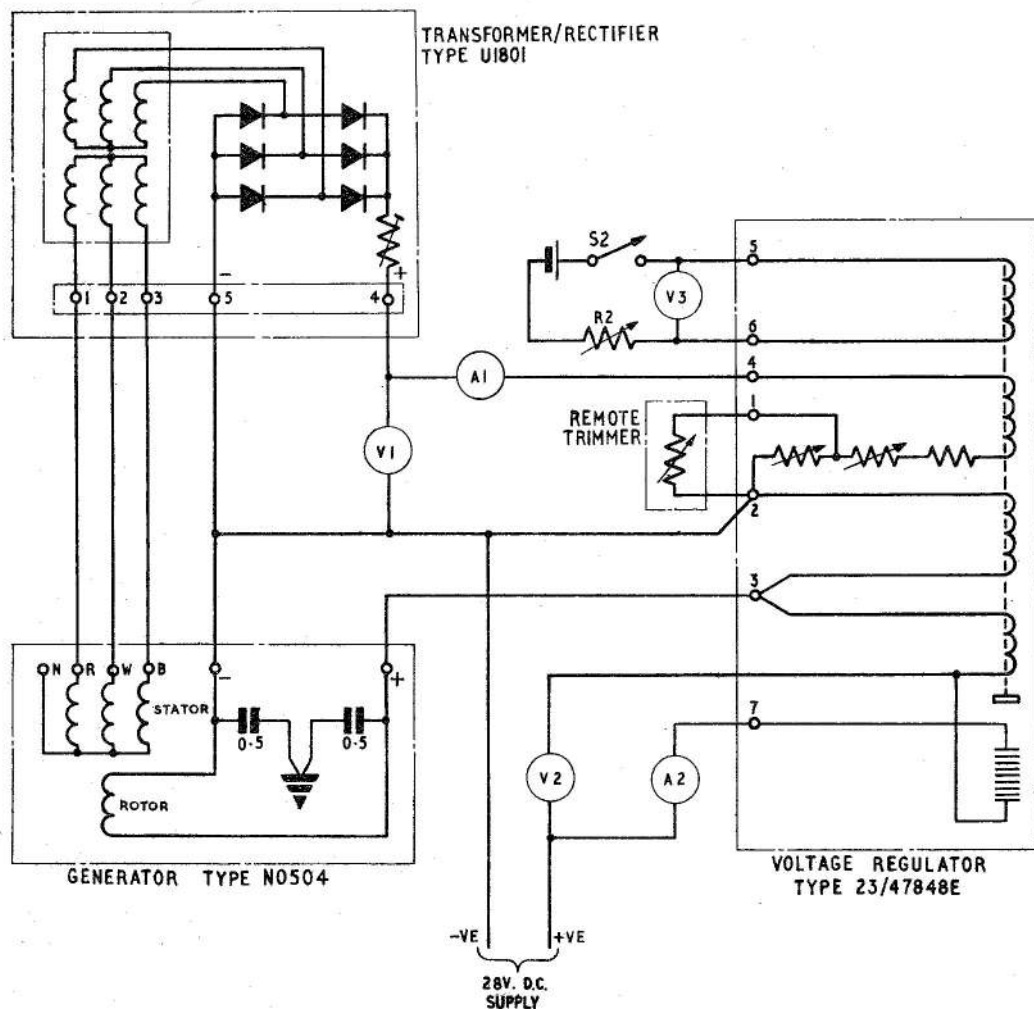
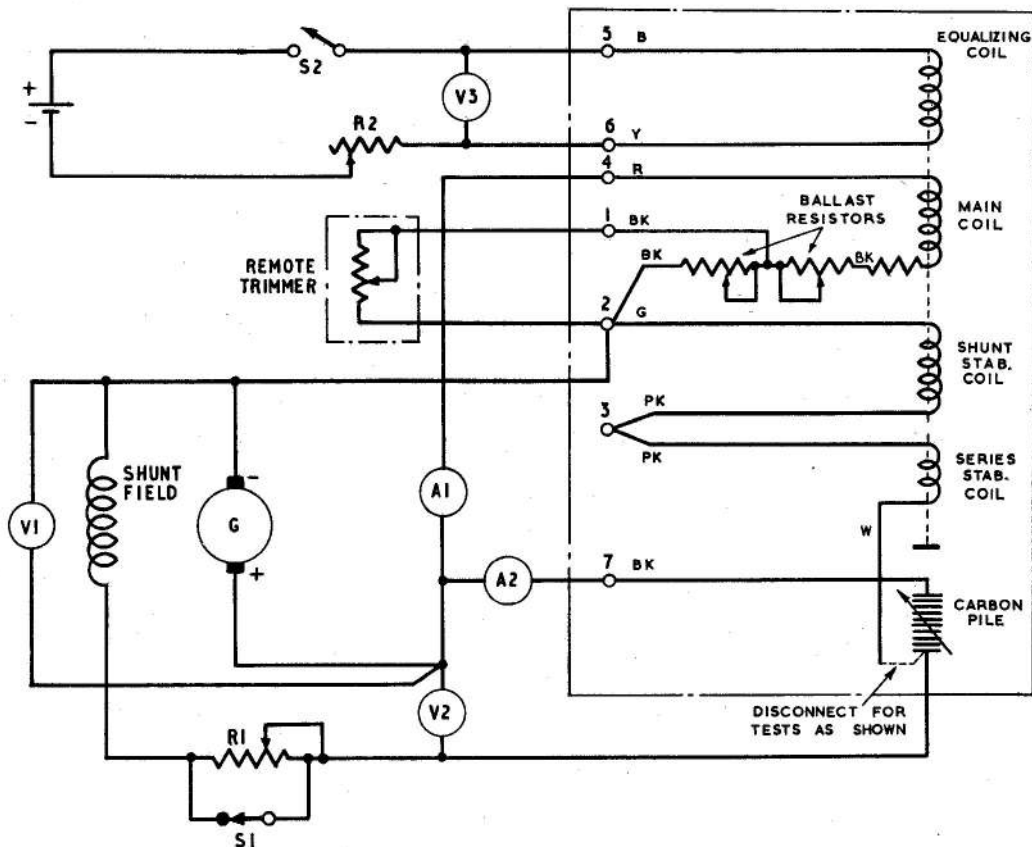

Fig. 1. Test circuit diagram, using a.c. generator Rotax Type N0504
Fig. 2. Test circuit diagram, using d.c. generator Type P3
4. Connect the regulator into the appropriate test circuit as shown in fig. 1 and fig. 2. If a d.c. generator is used for testing, disconnect the regulator shunt and series